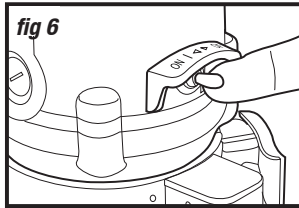

fig 6
**"On/off" toggle switch (fig 6)**